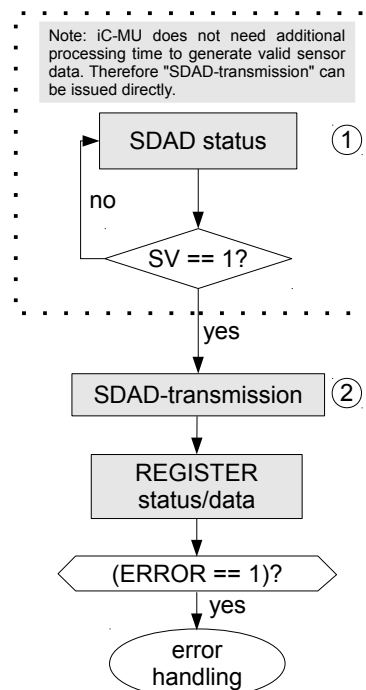

Figure 27: Example sequence of the commands SDAD Status/SDAD-transmission
Figure 27 shows the interaction of the two commands **SDAD Status** and **SDAD transmission**. It is not necessary to start each sensor data communication with the command **SDAD Status** (1). iC-MU has no processing time and can therefore directly output valid sensor data. Because of that the command sequence can start with **SDAD-transmission** (2). Following this, the command **REGISTER status/data** should be executed to detect an unsuccessful SPI communication.